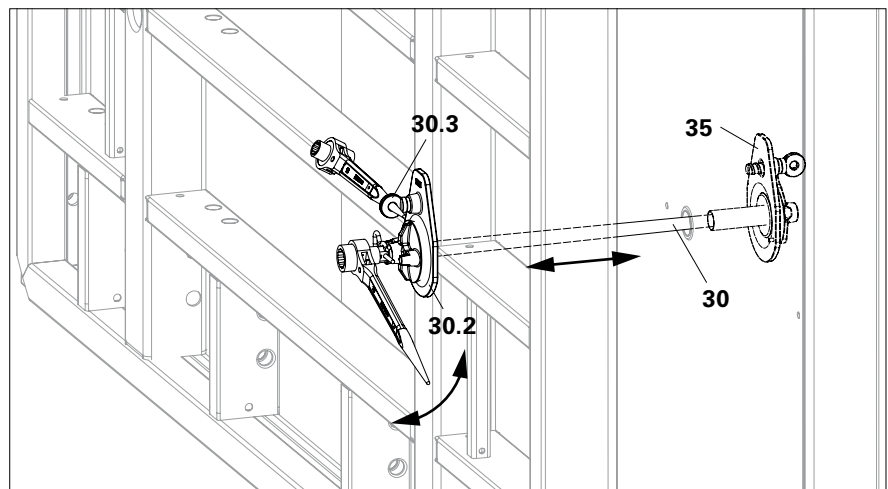

Fig. A5.06
4. Slightly tighten the Ring Bolt (30.3) by means of the Ratchet MX 15 (9), Tie Rod Spanner MX 15 or Scaffold Ratchet (57). (Fig. A5.06 and A5.07a)
1. Release Ring Bolt (30.3) using the Tie Rod Spanner (40) or Scaffold Ratchet (57).
2. Screw out Tie MX 15 (30) with the Ratchet MX 15 (9) or Tie Rod Spanner MX 15 (40). (Fig. A5.06 and A5.07b)